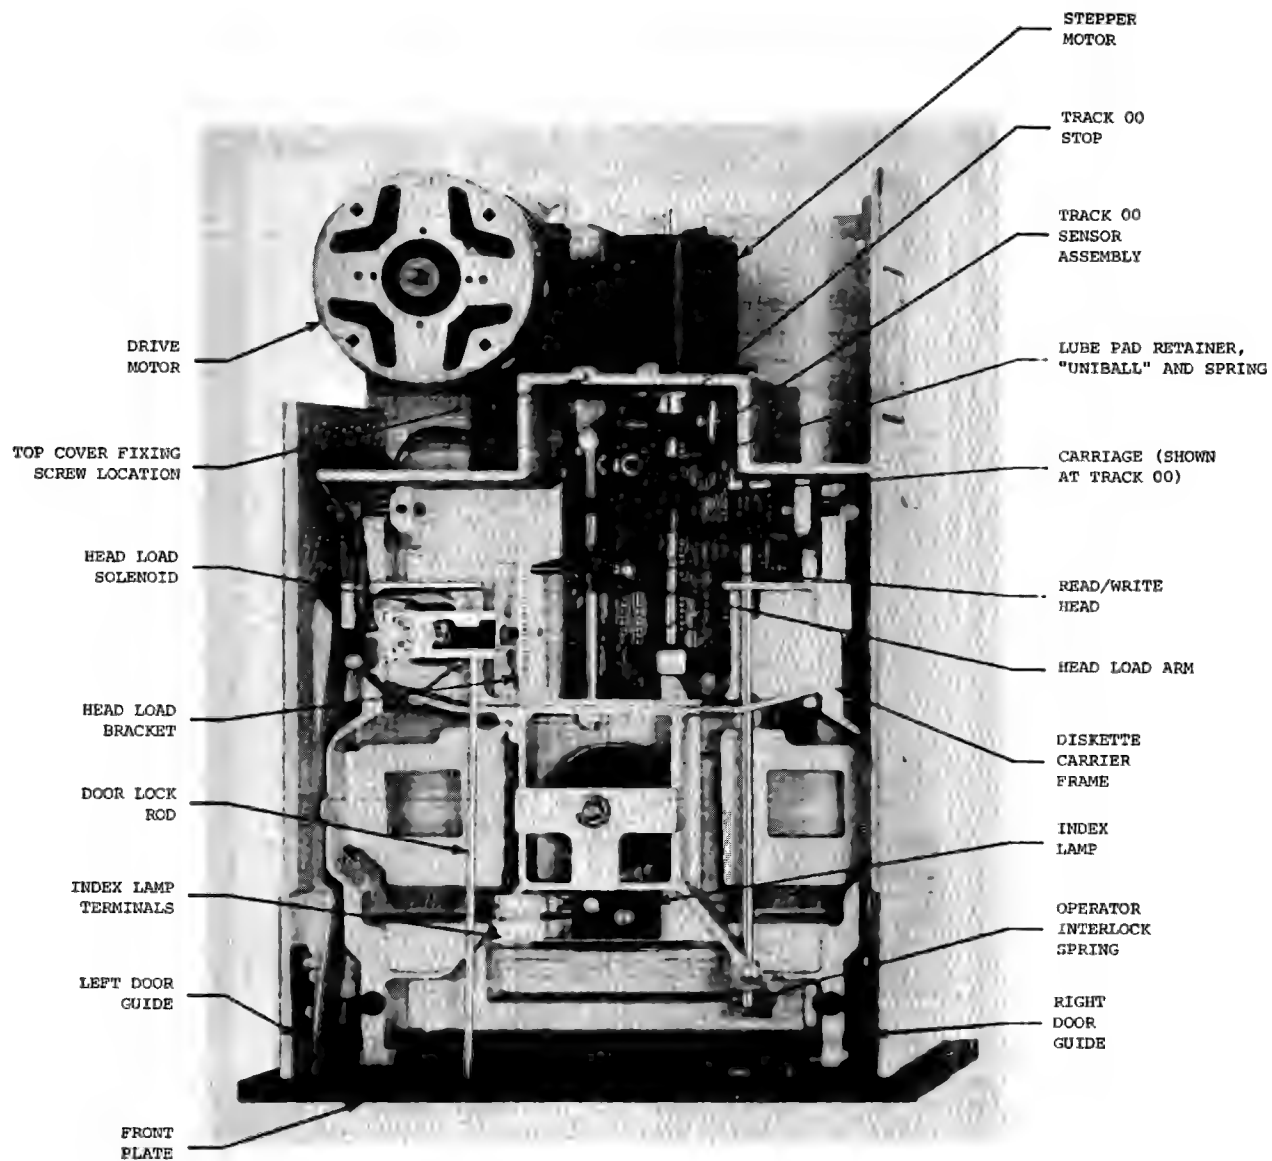

Figure 6-1. Model 76 Diskette Drive with Top Cover Removed
The parts referenced in the various procedures are illustrated in Figures 6-1, 6-2, 6-3, and 6-4.
### 6.3.1 INSPECT AND CLEAN READ/WRITE/ERASE HEAD (Figure 6-1)
##### 6.4.1 MOTOR DRIVE (Figures 6-1, 6-2, and 6-3)
#### 6.4.2 TOP COVER REMOVAL (Figure 6-1)
#### 6.4.3 DISKETTE CARRIER ACCESS (Figures 6-1 and 6-4)
(Figure 6-1)
**6.4.6 HEAD LOAD ACTUATOR (Figures 6-1 and 6-4)**